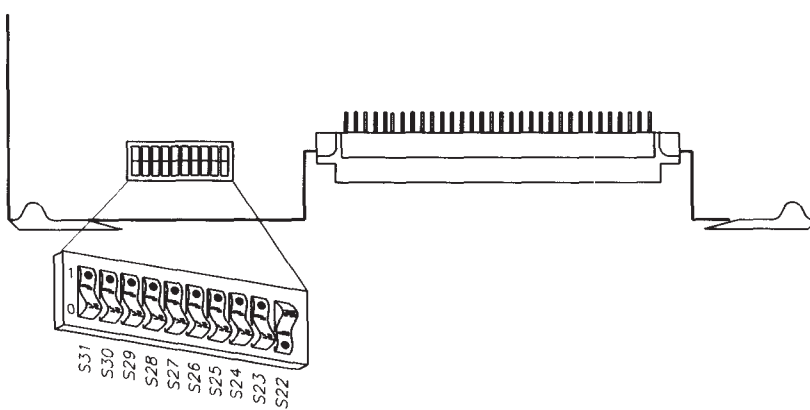
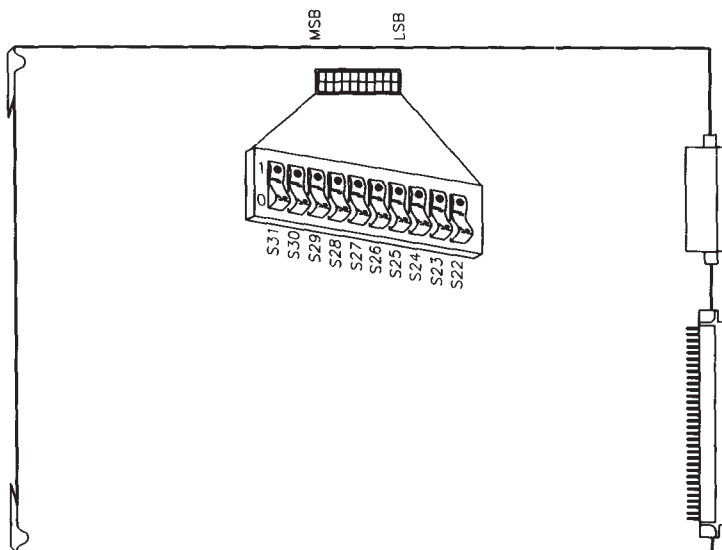

Figure 3-1.
Figure 3-3.
3. Set the switches on your new RAM board as shown in Figure 3-1.
7. Turn your computer on and hold down the space bar a few seconds. Check the display to make sure the amount of RAM in your computer has increased to *approximately* 8 Mbytes (8 338 608 bytes). See Figure 3-2. If the memory reported is significantly less, check that the switches for your built-in RAM are set as shown in Figure 3-3. Then double-check that your new RAM board's switches are set as shown in Figure 3-1.